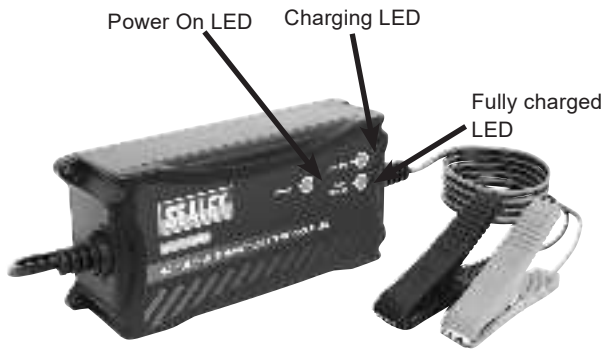
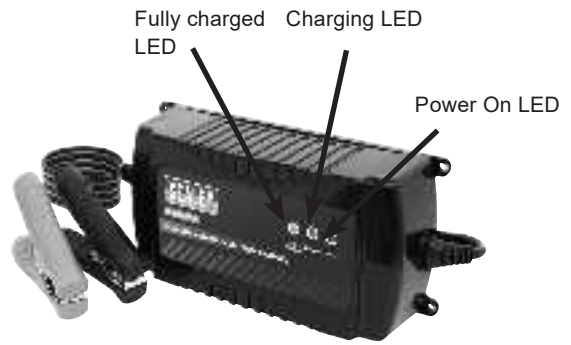

fig.1 SBC4, SBC6
fig.2 SBC8, SBC15
4.5.1. Plug the charger into the power supply and switch on. The LEDs on the front of the chargers (fig.1, fig.2) will indicate 'Power', 'Charging' or 'Fully Charged'.